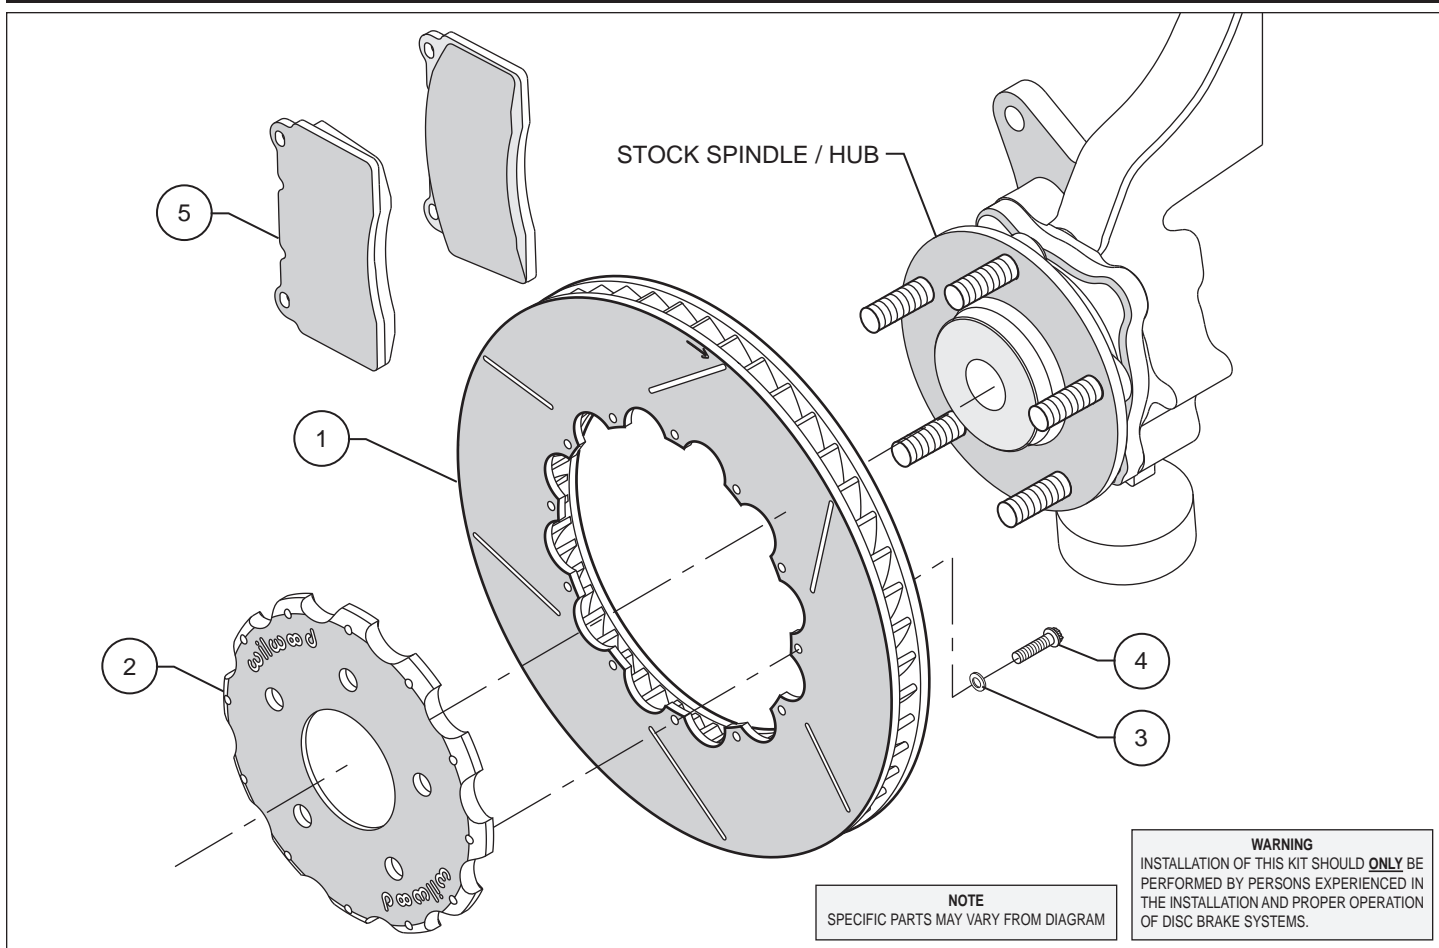
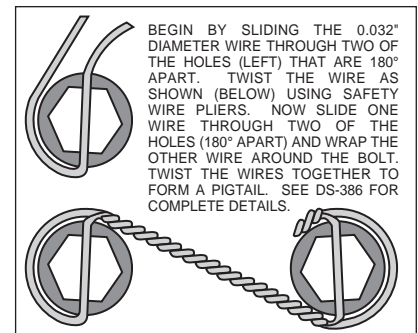

Figure 1. Typical Installation Configuration
Figure 2. Safety Wire Diagram
- Assemble the rotor (1) to the hat (2) with the bolts (4) and washers (3) provided in the configuration shown in Figure 1. Be sure all bolts thread in smoothly and are snug. Then, torque all bolts in an alternating sequence to 85 **in-lbs**. The rotor mounting bolts (4) must be lockwired using standard 0.032 inch diameter stainless steel safety wire as shown in Figure 2. Please refer to Wilwood's data sheet DS-386 (available at [www.wilwood.com/Pdf/DataSheets/ds386.pdf](http://www.wilwood.com/Pdf/DataSheets/ds386.pdf)) for complete safety wire installation instructions.
- Align the hole pattern on the hat (2) with the stud pattern on the hub. Slide the hat and rotor assembly (1 and 2) onto the hub. Check to be sure the hat seats squarely against the hub face. The hub must be free from any rust, debris, casting burrs, machining irregularities, etc. Use several lug nuts to hold the rotor and hat firmly against the hub face.